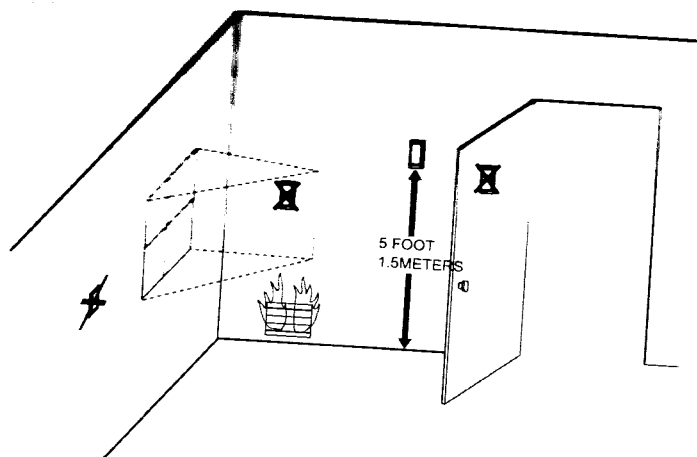

Fig. 22. Typical location for Indoor Sensor.
1. Choose a location (see Fig. 22) for mounting the sensor on an inside wall about 5 ft (1.5m) above the floor.
3. Make sure there is good air circulation at average temperature at the chosen location. Avoid the following locations because they can introduce errors in sensor measurements. See Fig. 22.